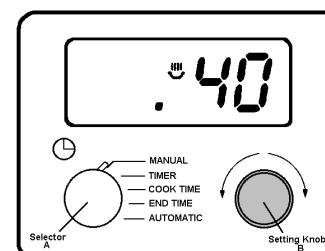

Fig.4
To set, press button (1) and the display will read 0:00. See Fig. 4.
Using setting knob (B), turn until the required period to be timed is shown e.g. 40 mins. Fig. 4.